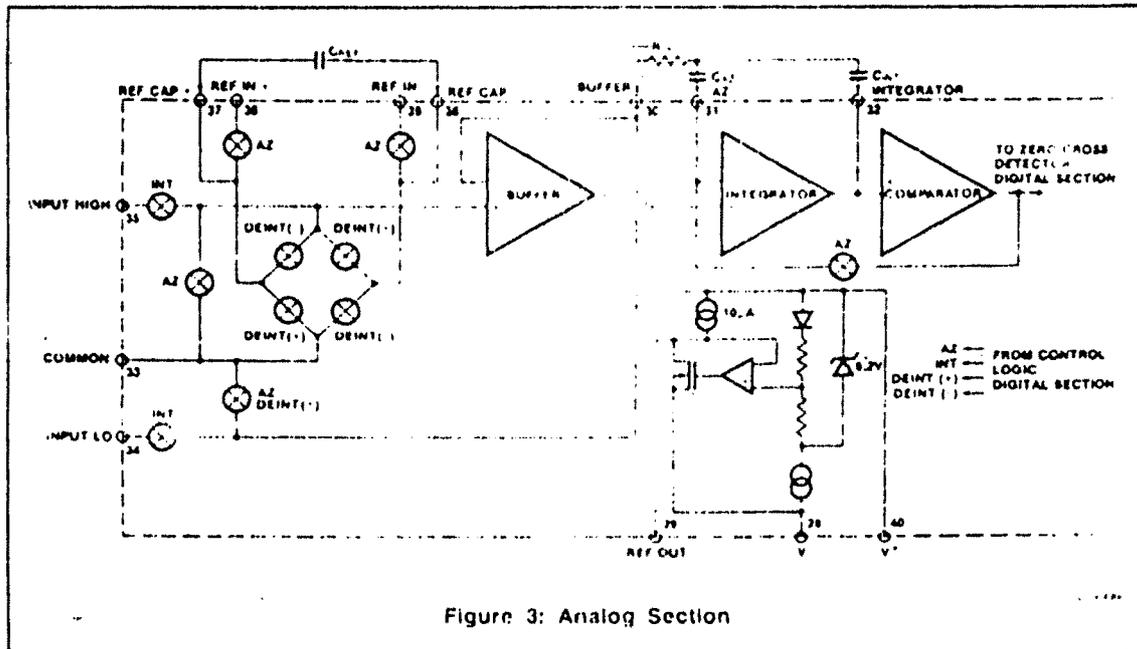
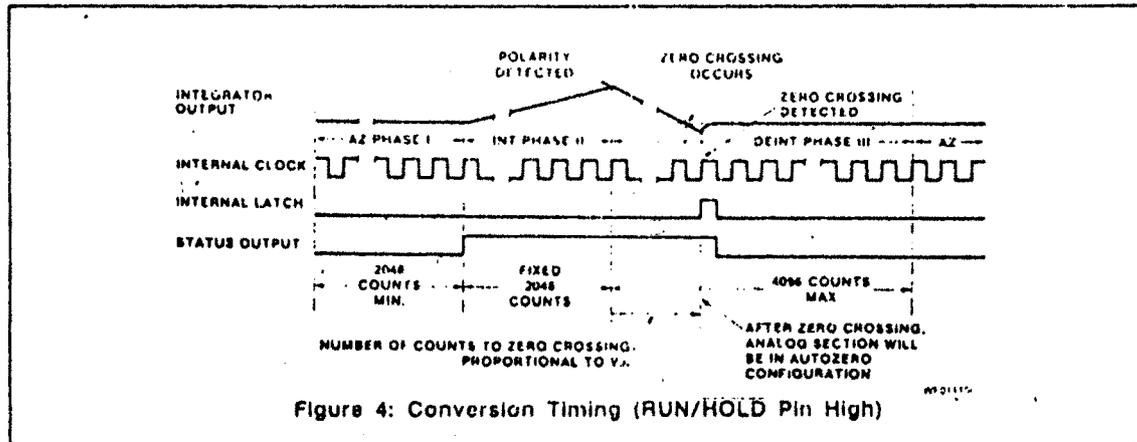

Figure 3: Analog Section
Figure 4: Conversion Timing (RUN/HOLD Pin High)
Figure 3 shows the equivalent circuit of the Analog Section of the ICL7109. When the RUN/HOLD input is left open or connected to V⁺, the circuit will perform conversions at a rate determined by the clock frequency (R192 clock periods per cycle). Each measurement cycle is divided into three phases as shown in Figure 4. They are (1) Auto-Zero (AZ), (2) Signal Integrator (INT) and (3) Deintegrate (DE).
During a conversion cycle, the STATUS output goes high at the beginning of Signal Integrate (Phase II), and goes low one-half clock period after new data from the conversion has been stored in the output latches. See Figure 4 for details of this timing. This signal may be used as a "data valid" flag (data never changes while STATUS is low) to drive interrupts, or for monitoring the status of the converter.
When the RUN/HOLD input is high, or left open, the circuit will continuously perform conversion cycles, updating the output latches after zero crossing during the Deintegrate (Phase III) portion of the conversion cycle (See Figure 4). In this mode of operation, the conversion cycle will be performed in 8192 clock periods, regardless of the resulting value.